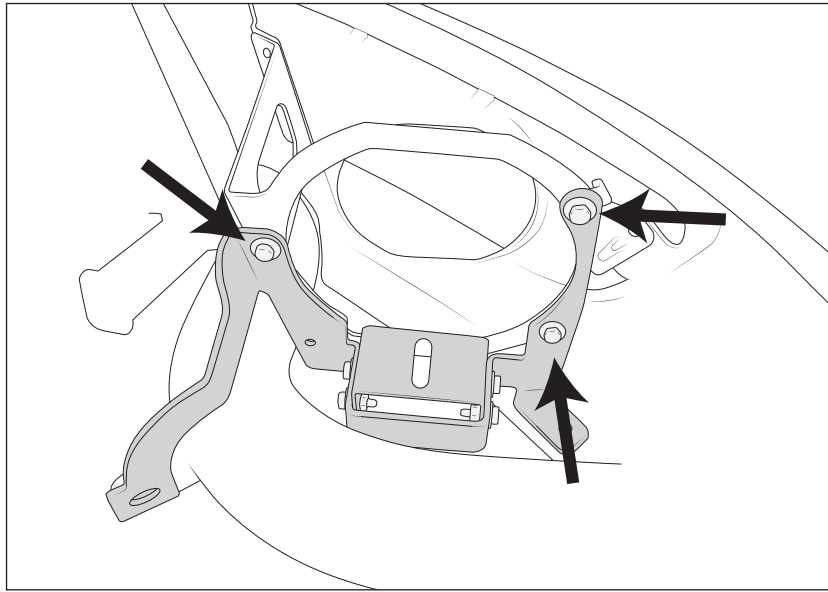

Figure 7
2. Bolt assembly to the existing Bracket on the bumper using 3 M6 bolts saved from disassembly (fig. 7).